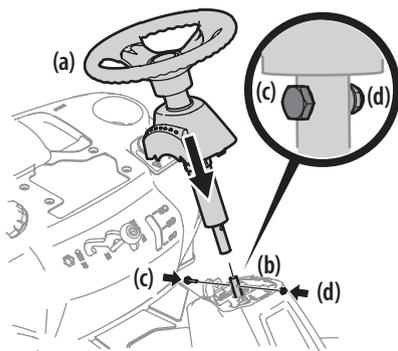

Figure 3
- Lower the steering wheel assembly (a) onto the lower steering shaft (b) and secure with the shoulder bolt (c) and lock nut (d) previously removed. See Figure 3.